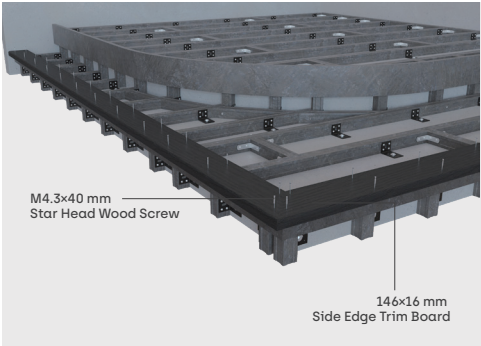

Figure 3-1
1. Install the first-layer platform with 150 x 25 mm straight edge trim boards and 146 x 16 mm side edge trims, as shown in Figures 3-1 and 3-2.